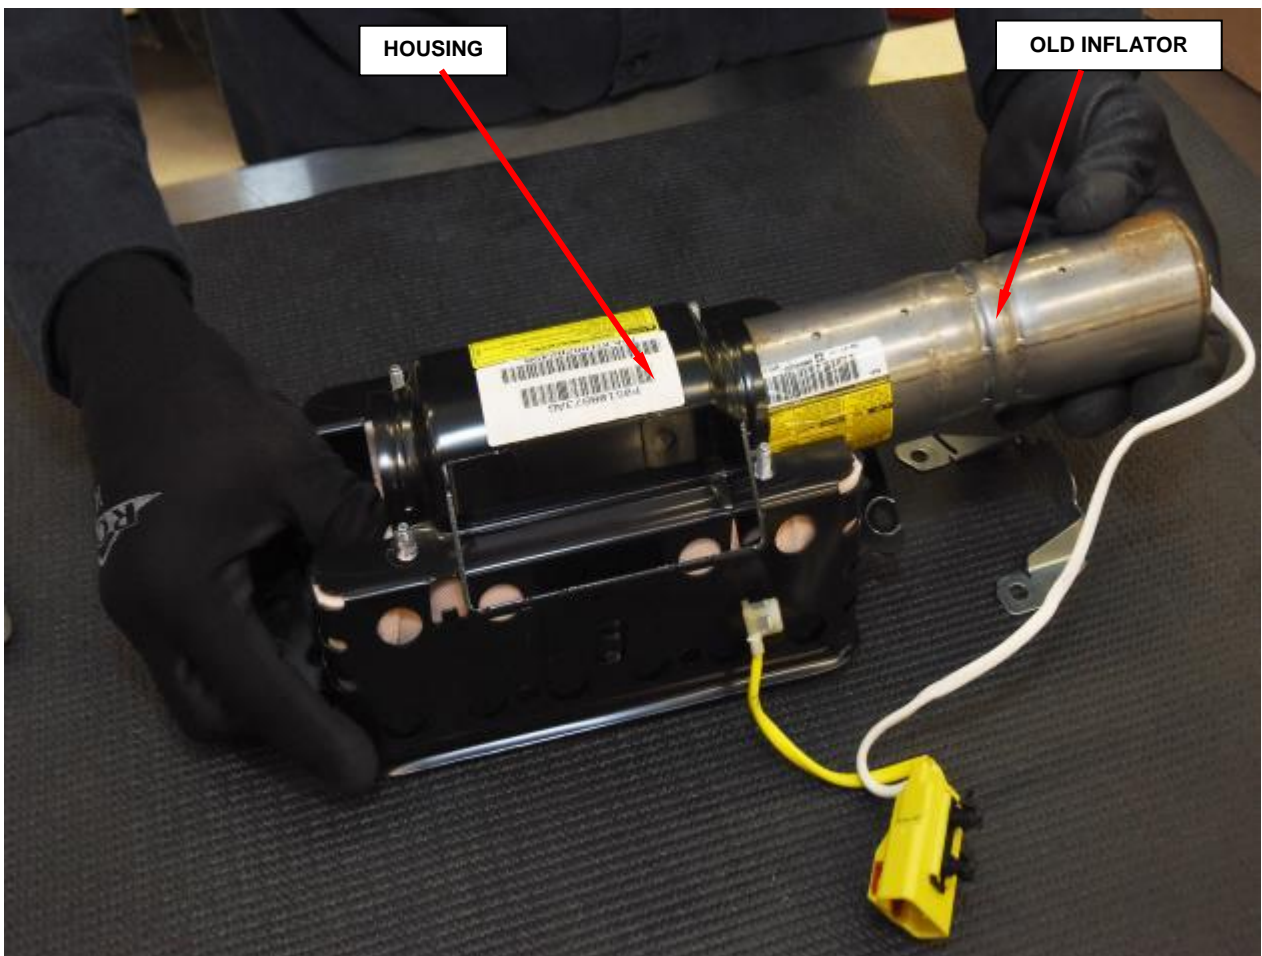

Figure 63 – Passenger Airbag Inflator Removal
- g. Slide the inflator out of the housing (Figure 63).